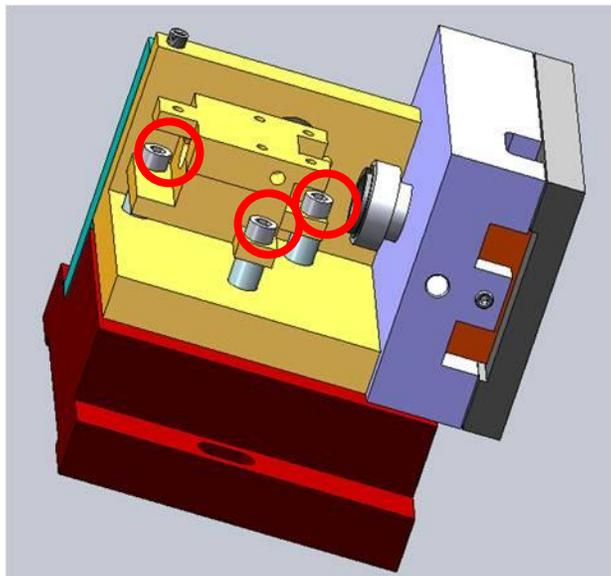

Figure 23: Fasteners securing YAG crystal holder to pump base
- 4.23. Remove the three 4-40 screws that attach the YAG crystal holder to the YAG base, as shown in Figure 23. The white ceramic spacers are attached to the base on older SP2s, but are loose on newer SP2s, so keep track of them.